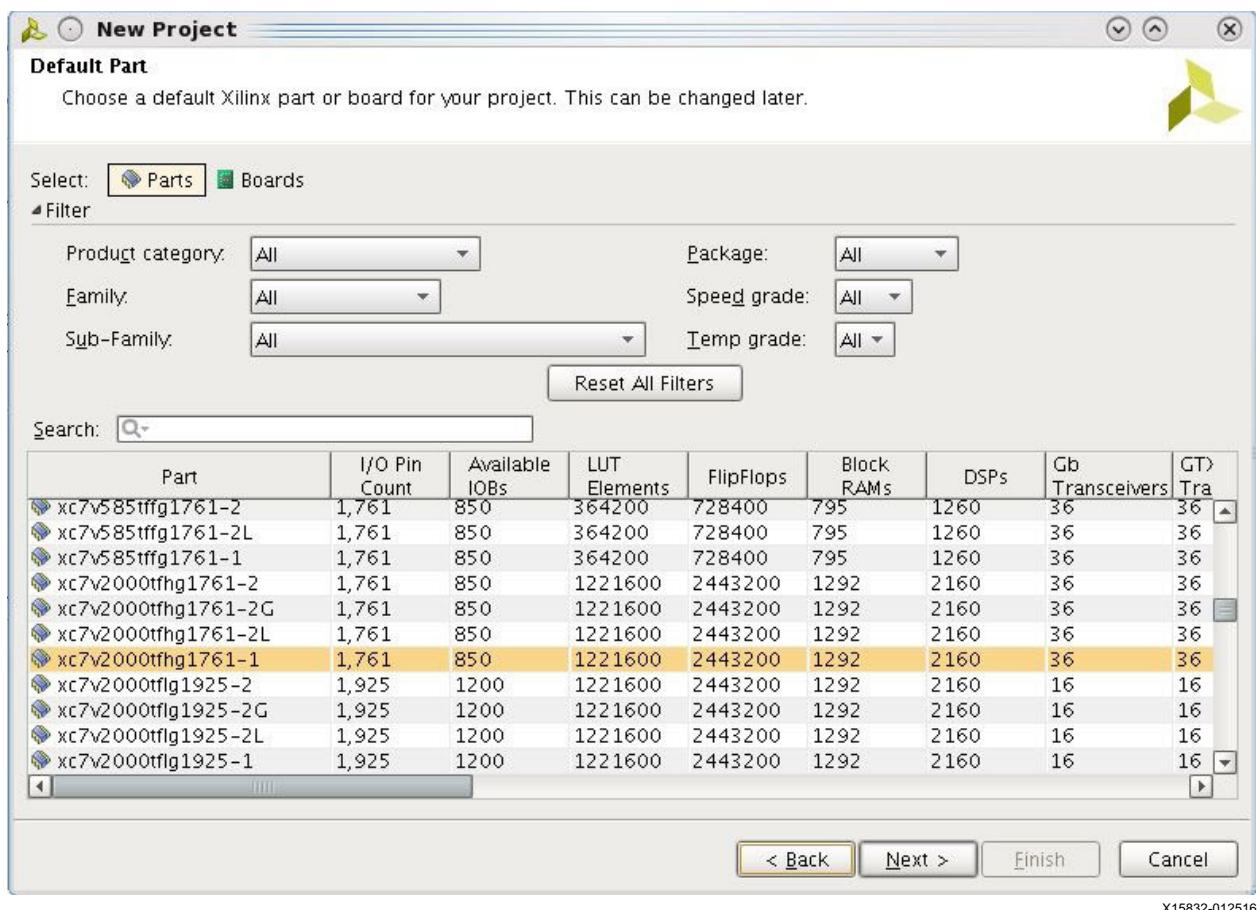

Figure 4: Device Selection GUI
6. In the part selection window (Figure 4), select the *xc7v2000tfg1761-1*. If your example targets a different SSI device, fill in the specific part and click *Next*.